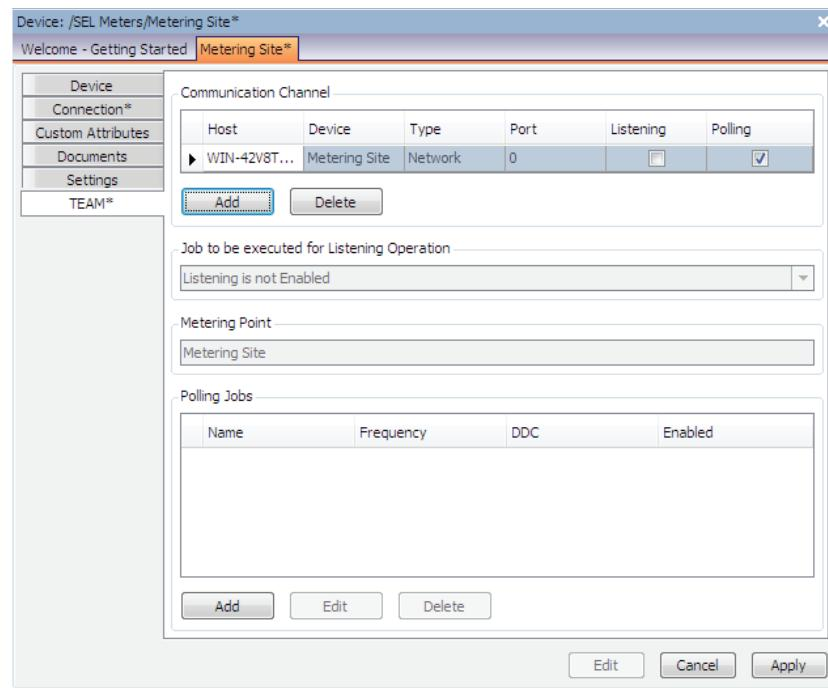

Figure 186 Add Polling Jobs
Step 2. Select the **Add** button under the **Polling Jobs** section shown in *Figure 186*. This causes the **Polling Job Assignment Wizard** to display.